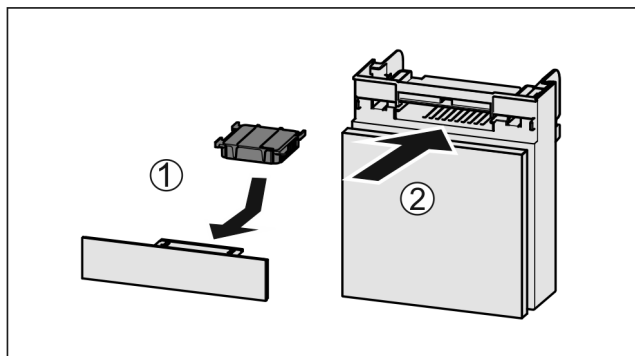

Fig. 82
- ▶ Insert the carbon filter as shown in the diagram Fig. 82 (1).
- ▶ Push the compartment in Fig. 82 (2).